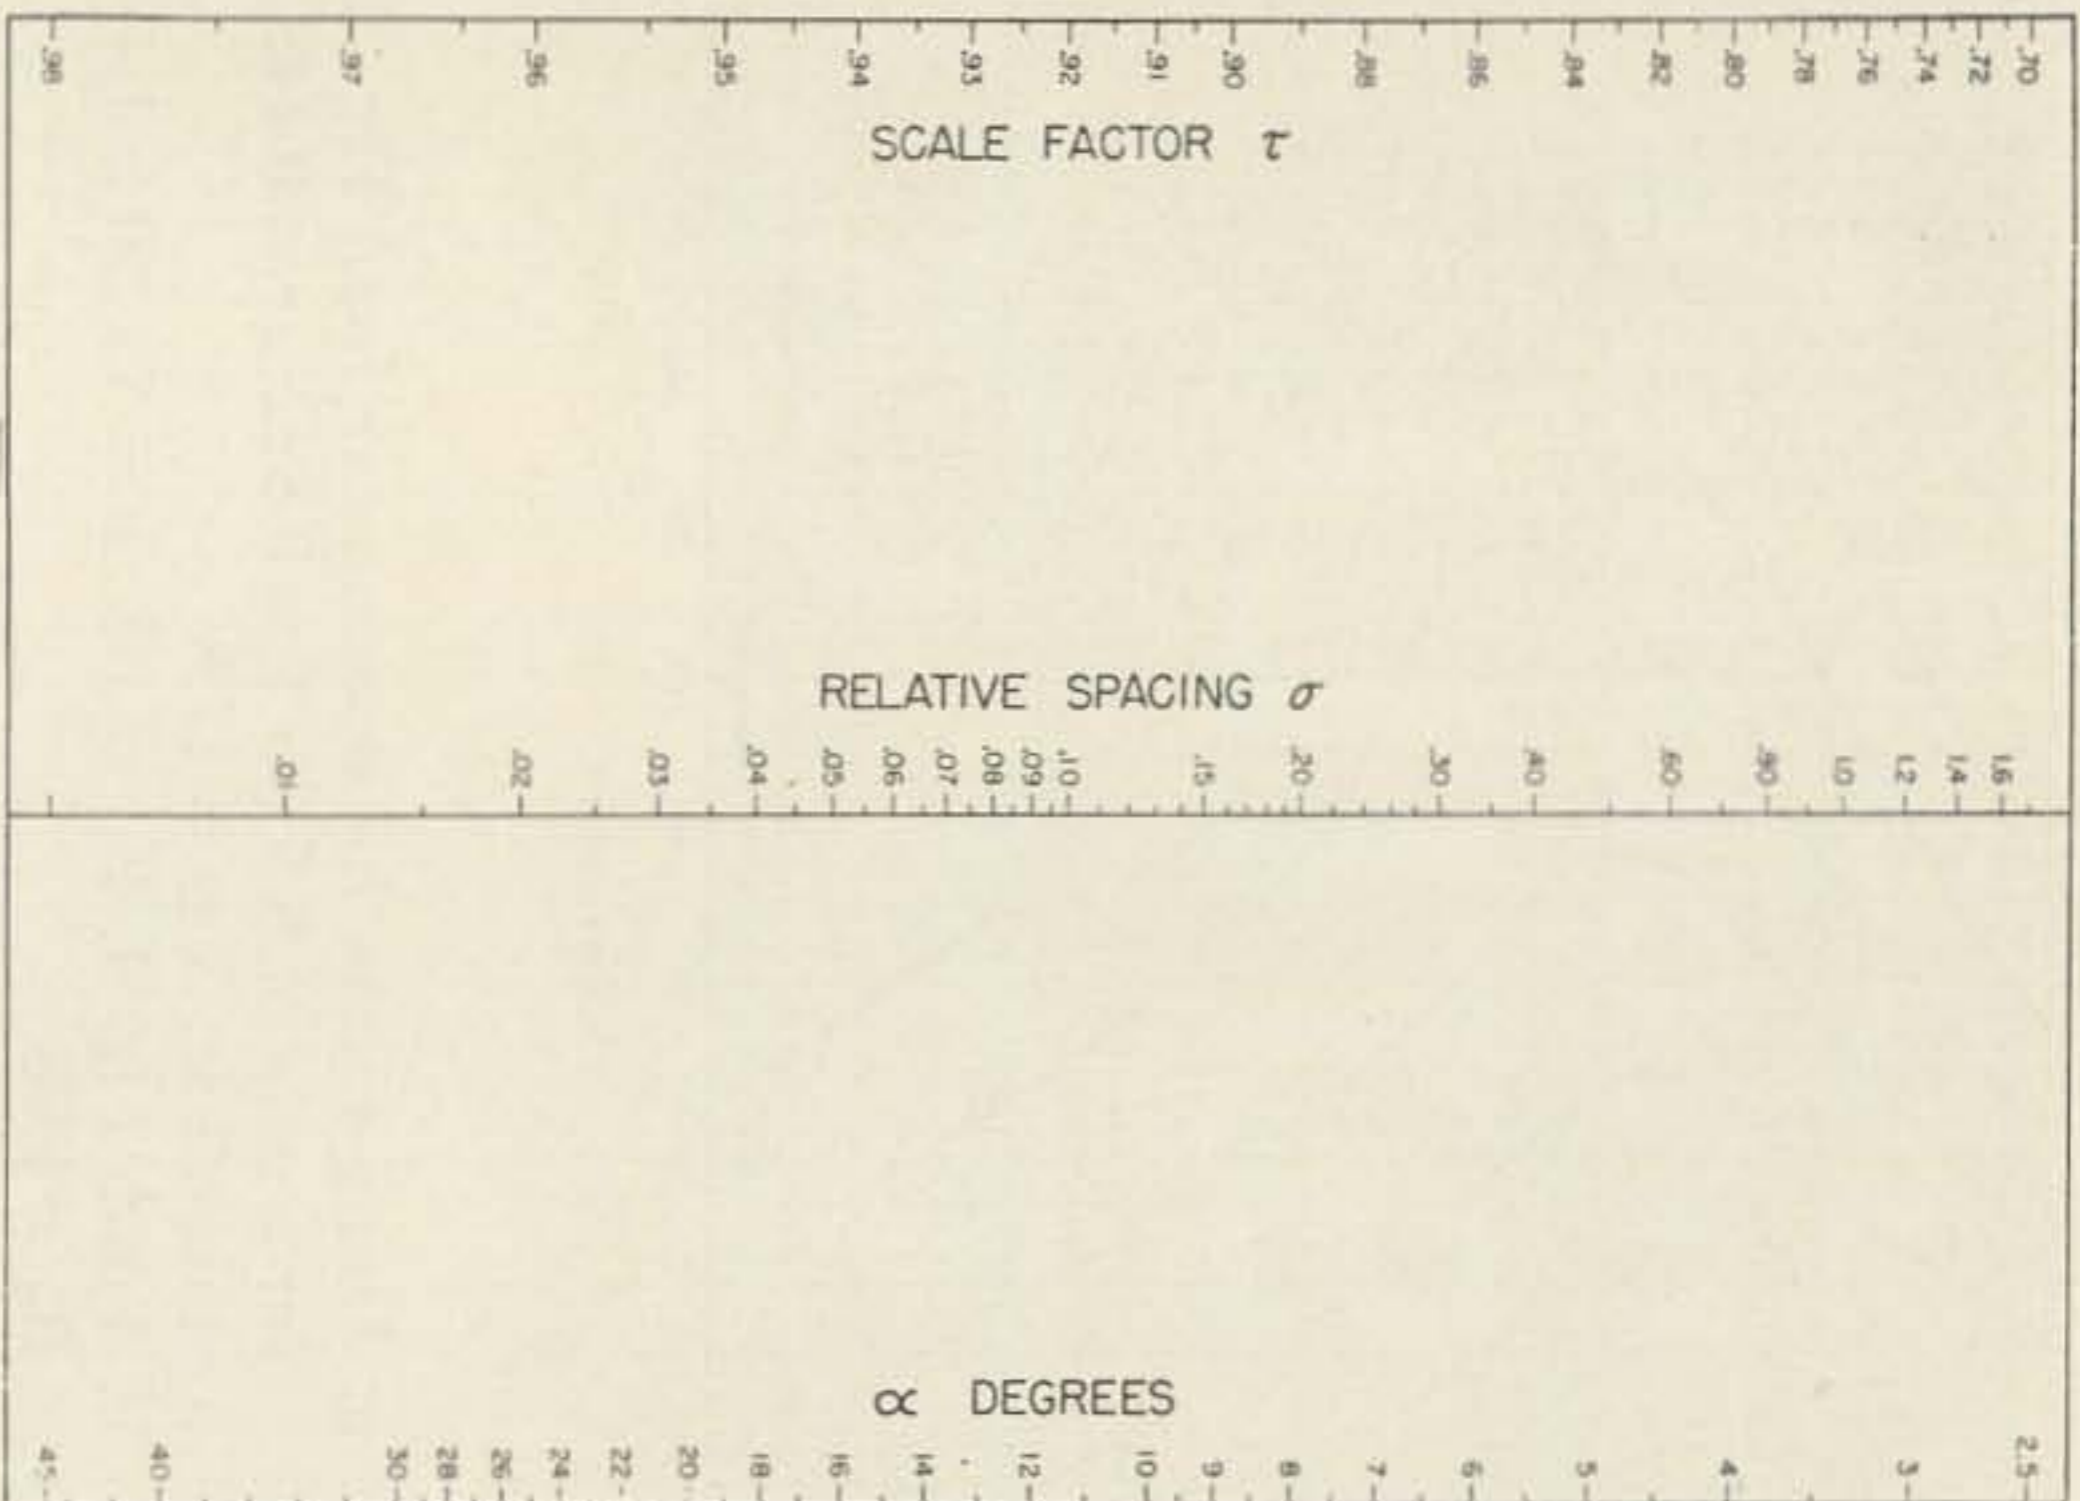

Fig. 3.
It is normal to design an LPD antenna for a given gain and input impedance over a given frequency band. The relative size of the structure and the number of elements is of importance and these two factors will depend on the values of τ (an increase in τ means a greater number of elements) and α (increase in α means a decrease in size). The factors τ and σ are the main determining factors affecting the shape of the radiation pattern and there will be a value of σ , called "optimum σ " that will be an optimum for any desired gain and will give a minimum value of τ and SWR and maximum front-to-back ratio. A chart giving this relationship is shown as Fig. 2. The best design procedure is to start with the optimum value for σ and make a table for lesser values. The values for α , boom length, and number of elements, can be found from the charts given as Figs. 3 to 6.
b. From Fig. 3, $\alpha = 17.8^\circ$